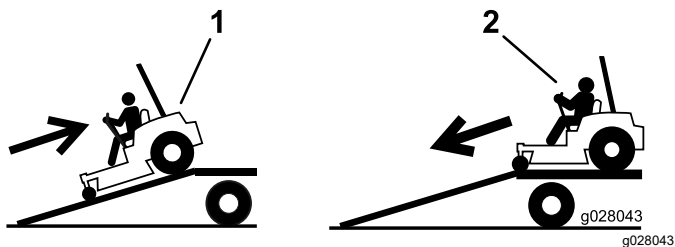

Figure 34
4. Back the machine up the ramp (Figure 34).
2. Drive the machine forward down the ramp (Figure 34).